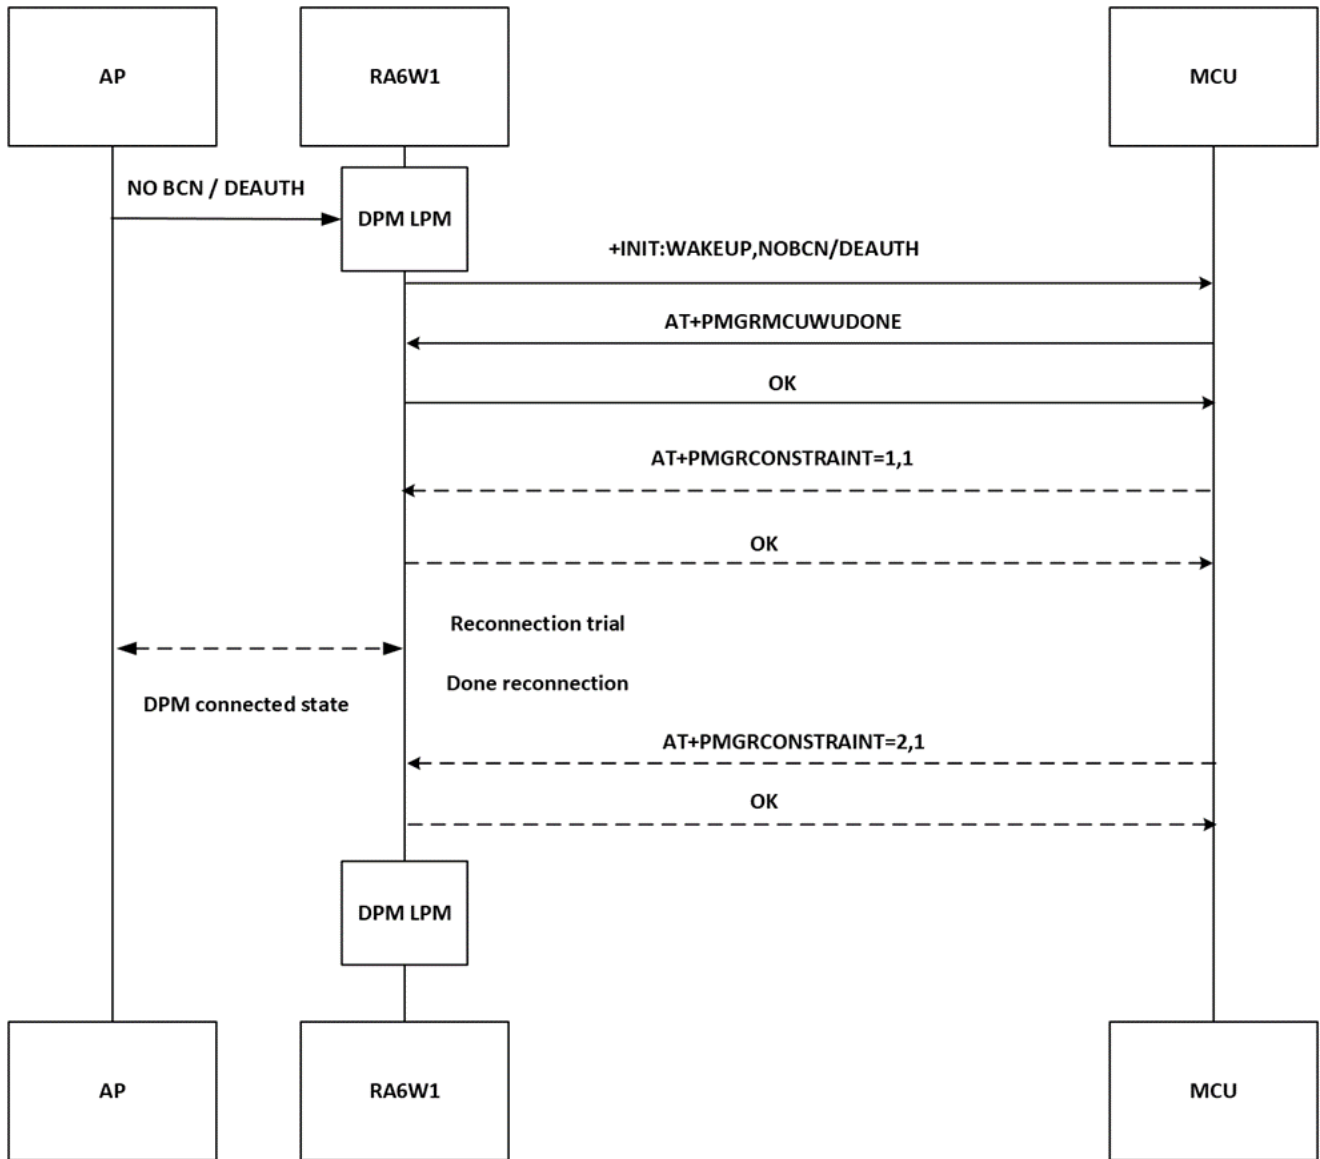

Figure 19. Flow of AT commands for waking up by disconnection from AP
- Disconnection from AP, see Figure 19